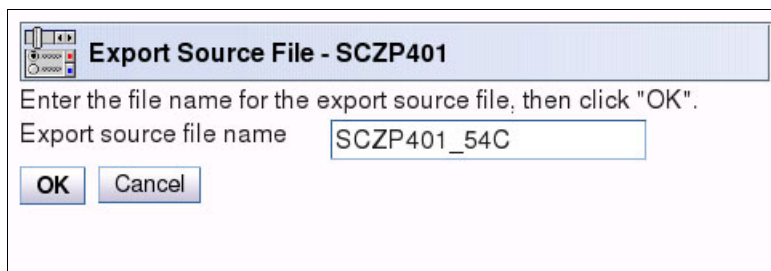

Figure 14-76 OSA Advanced Facilities: export file name specification
6. The task requests that a file name be written to the installed media device. For our example, we enter SCZP401\_54C (Figure 14-76). Click **OK**.